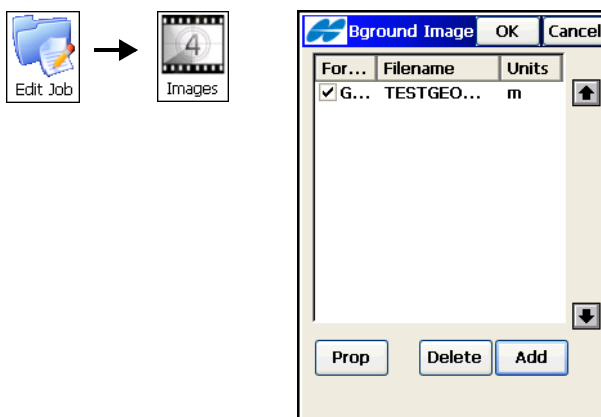

Figure 4-101. Select Background Images
2. On the **Background Images** screen (Figure 4-101) select the image. It is possible to select multiple background images. Using multiple background images is limited by the amount of free space in the controller memory.